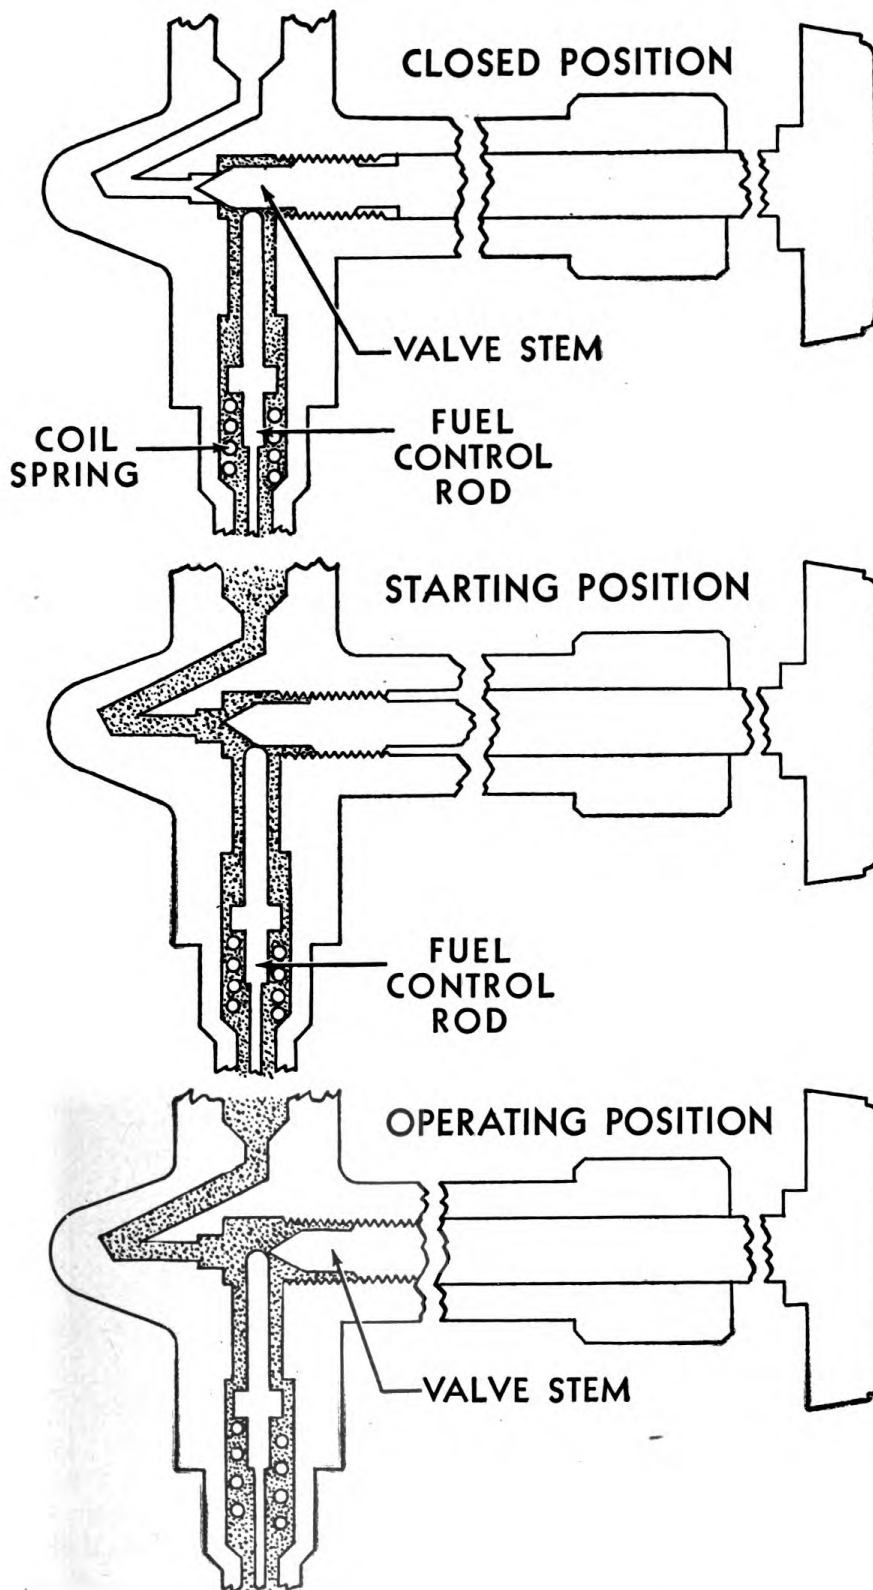

Figure 10. Cross-section of fuel control valve.
13. HOW THE STOVE OR BURNER OPERATES. a. In the starting position (fig. 10), when the fuel control valve is open a quarter turn,